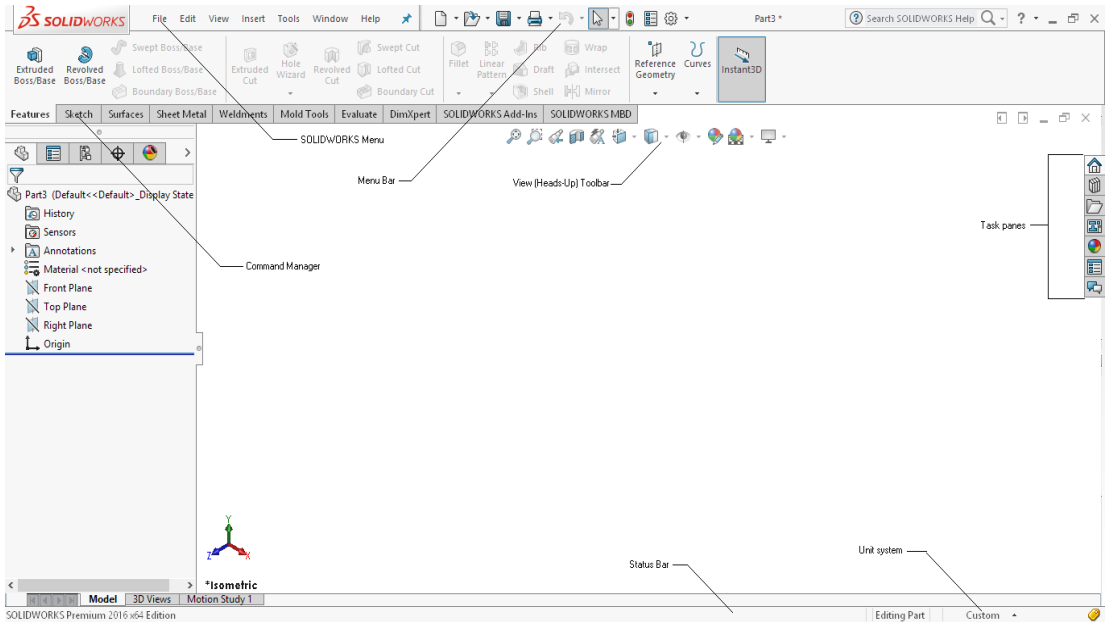
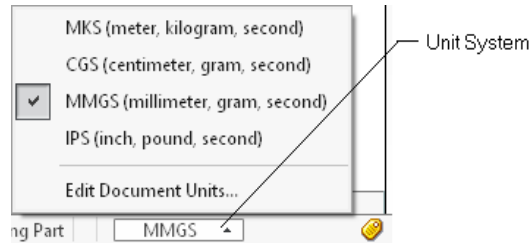

Figure 2-11 The initial interface displayed on invoking the *Part* document
Figure 2-14 The flyout showing the currently selected unit system
2. Make sure that the **Part** button is chosen in the **New SOLIDWORKS Document** dialog box. Next, choose the **OK** button to invoke the **Part** mode, refer to Figure 2-11.
In **SOLIDWORKS**, you can also change the units for the current document by using the **Unit system** that is located towards right in the **Status Bar**; refer to Figure 2-11. To do so, click on the **Unit system**; a flyout will be displayed with a tick mark on the left of the activated unit system, refer to Figure 2-14. Now, you can select the required unit system for the activated unit system from this flyout. You can also invoke the **Document Properties-Units** dialog box by selecting the **Edit Document Units** from this flyout.